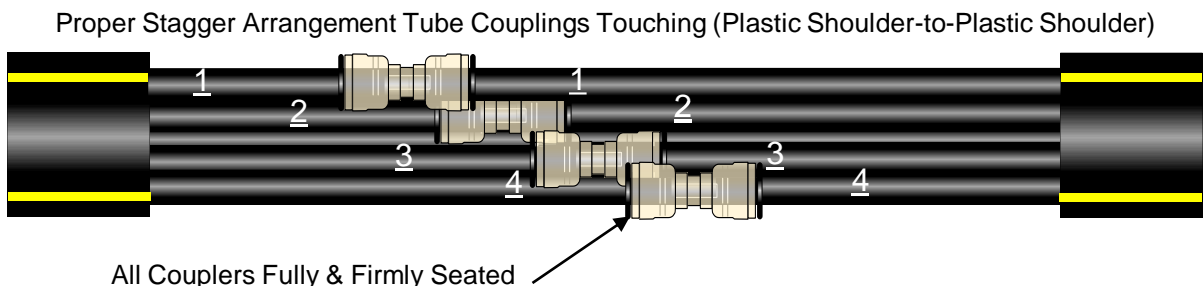

Figure 8
8.2 Connect tube cable ends together by first coupling tube with highest number to its mate. Then continue coupling tubes in descending numerical sequence. Be sure each tube is pushed all the way into its coupling and fully and firmly seated. **See Fig. 8.**